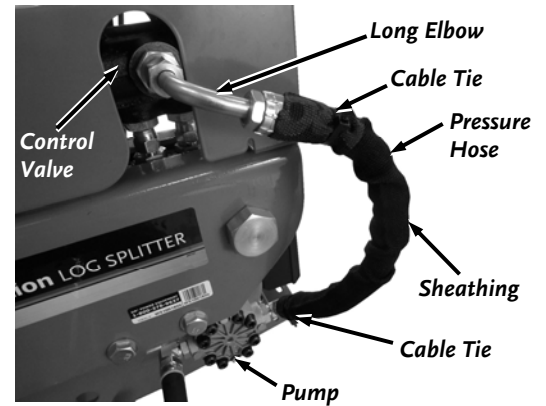

Figure 13
22. Slide the Sheathing over one of the Pressure Hoses and secure it to the Hose with a Cable Tie near each end (**Figure 13**).